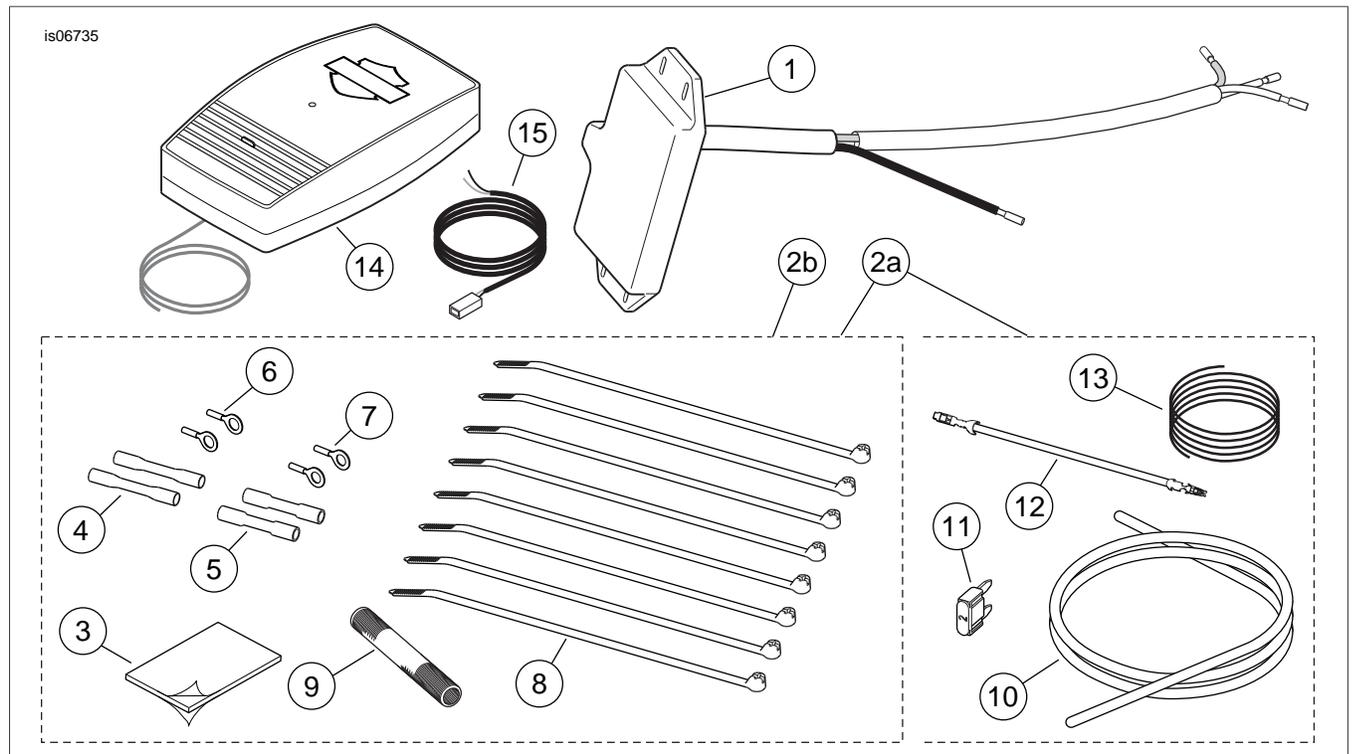

Figure 27. Service Parts, Remote Control Garage Door Opener Kits
3. See Figure 15, the 2 into 1 splice configuration. Use a **red** sealed splice connector (Figure 27, Item 4) from the kit to splice the garage door opener wire harness power lead to the main harness orange/white wires per the instructions in the service manual appendix.
4. See Figure 15, the 1 into 1 splice configuration. Use a **blue** sealed splice connector (Figure 27, Item 5) from the
3. Slide the woven wire conduit (9) from the kit over the yellow and white transmitter wires.
4. See Figure 15, the 1 into 1 splice configuration. Use a **blue** sealed splice connector (Figure 27, Item 5) from the kit to splice the white transmitter wire to the white headlamp wires. Use the remaining blue sealed splice connector to splice the yellow transmitter wire to the yellow headlamp wires.
4. See Figure 15, the 1 into 1 splice configuration. Use a **blue** sealed splice connector (Figure 27, Item 5) from the kit to splice the white transmitter wire to the white head-
2. See Figure 27. Slide the woven wire conduit (9) from the kit over the yellow and white transmitter wires.
3. See Figure 15, the 1 into 1 splice configuration. Use a **blue** sealed splice connector (Figure 27, Item 5) from the kit to splice the white transmitter wire to the white headlamp wires. Use the remaining blue sealed splice connector to splice the yellow transmitter wire to the yellow headlamp wires.